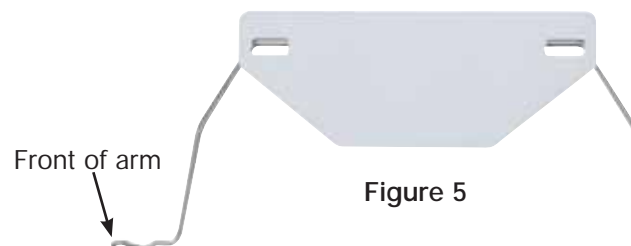

Figure 5
9. The arm depicted in Figure 5 is used for side-by-side models that have an ice and water application. To remove the arm, first unhook the arm from the bearing and inlet. Then lift the arm to the "OFF" position and pull. To reinstall the arm, insert the front of the arm to the housing first, then lower the arm and install the rear of the arm to the bearing inlet. See Figure 5.